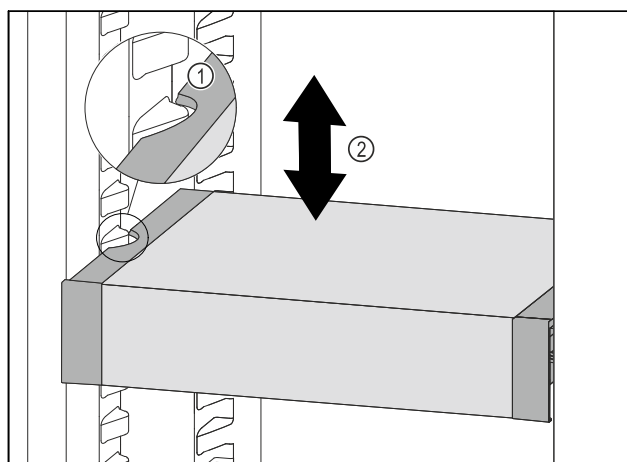

Fig. 133
- Pull VarioSafe forwards until the recesses in the side of the VarioSafe are at the level of the support rib in the refrigerator compartment. Fig. 133 (1)
- Move VarioSafe up or down in the refrigerator compartment until the desired height is reached. Fig. 133 (2)